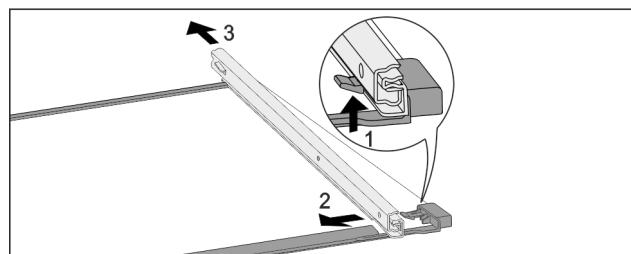

Fig. 158 Glass shelf with rails
- Push up front click-in hooks. Fig. 158 (1)
- Slide pull-out rails to the side Fig. 158 (2) and backwards Fig. 158 (3).